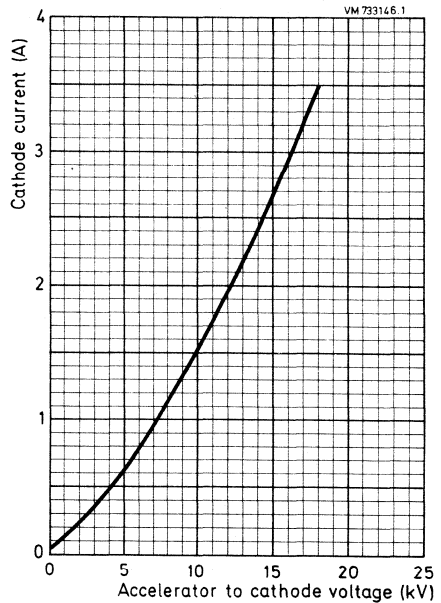

Fig. 4.
6. For cathode current (tolerance  $\pm 5\%$ ) versus accelerator-to-cathode voltage, see Fig. 4.